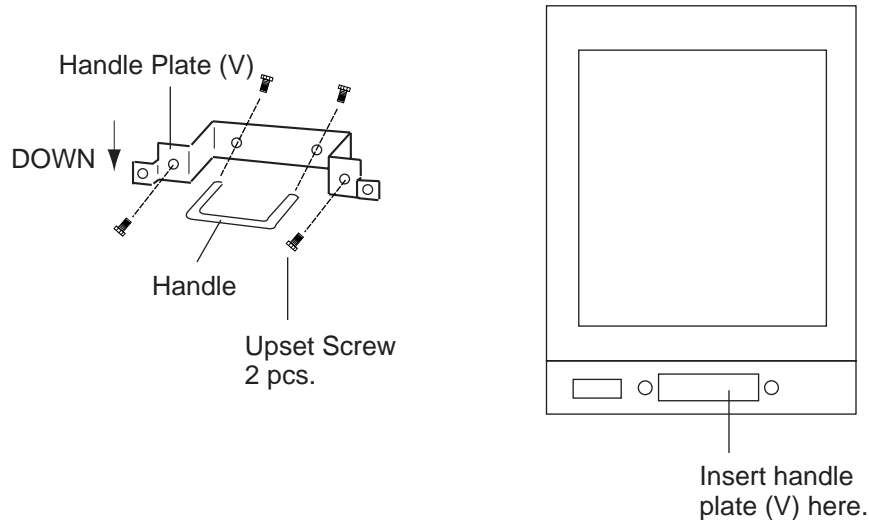

Figure 1-17 Attaching the handle plate (V)
1. Fasten the handle to the supplied handle plate (V), using the screws formerly used to fixed the handle.
2. Using two upset screws (M5X10, supplied), fasten the handle plate (V) to the location shown in Figure 1-17.